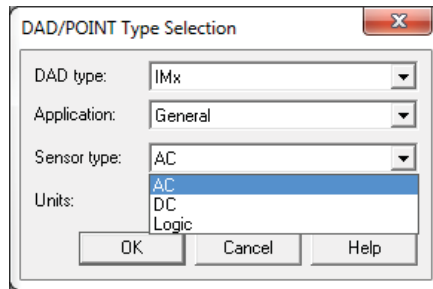

Fig. 3. Select the sensor type.
- 3 Select "AC" as the **Sensor type** (→ fig. 3).